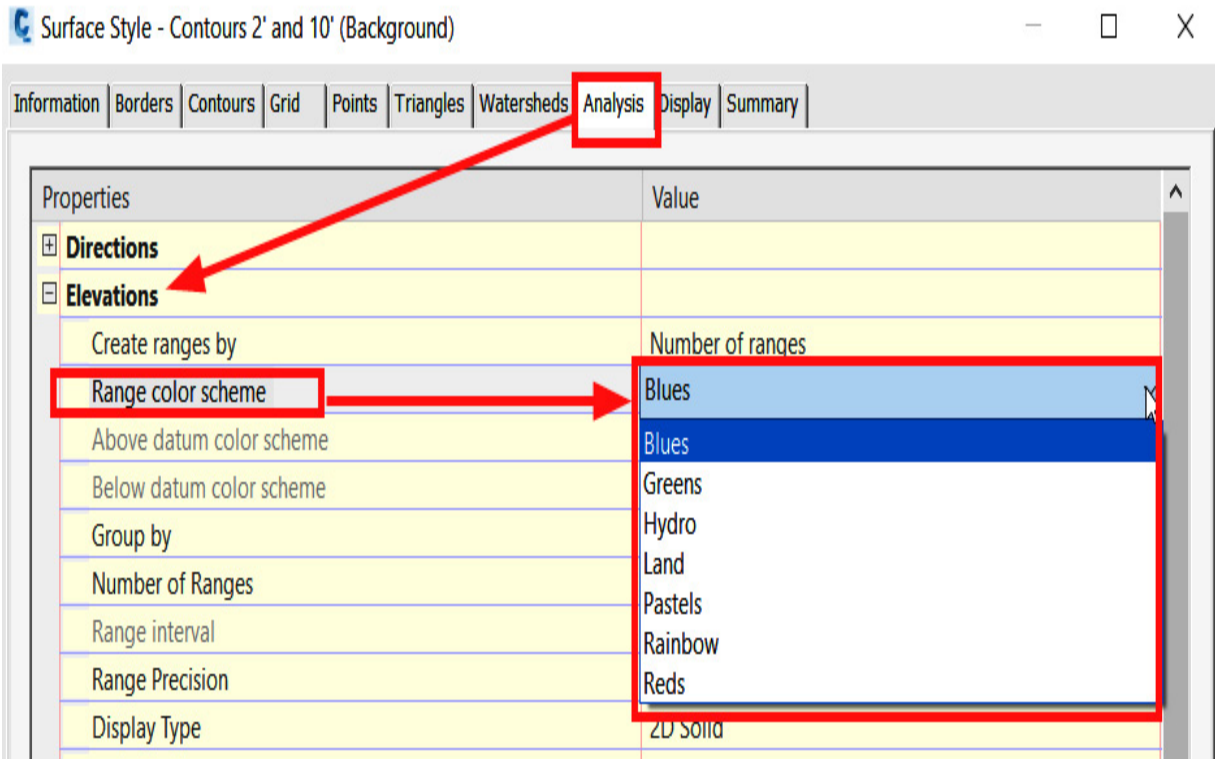

Figure 6.10 – Surface Style properties | Analysis tab | Elevations default settings
- **Cut and Fill Banding 1' Interval (2D):** Applying this display to our surface model will only turn on elevations, where the color scheme displayed in model space is initially identified by the default settings applied in **Surface Style | Analysis | Elevations | Range color scheme** (refer to *Figure 6.10*).
- **Elevation Banding (2D):** Applying this display to our surface model will only turn on elevations, where the color scheme displayed in the model space is initially identified by the default settings applied in **Surface Style | Analysis | Elevations | Range color scheme** (refer to *Figure 6.10*).
**Surface Style | Analysis | Elevations | Range color scheme** (refer to *Figure 6.10*).
- **Elevation Banding 10' Interval (2D)**: Applying this display to our surface model will only turn on elevations, where the color scheme displayed in model space is initially identified by the default settings applied in **Surface Style | Analysis | Elevations | Range color scheme** (refer to *Figure 6.10*).
- **Slope Banding (2D)**: Applying this display to our surface model will only turn on elevations, where the color scheme displayed in the model space is initially identified by the default settings applied in **Surface Style | Analysis | Elevations | Range color scheme** (refer to *Figure 6.10*).